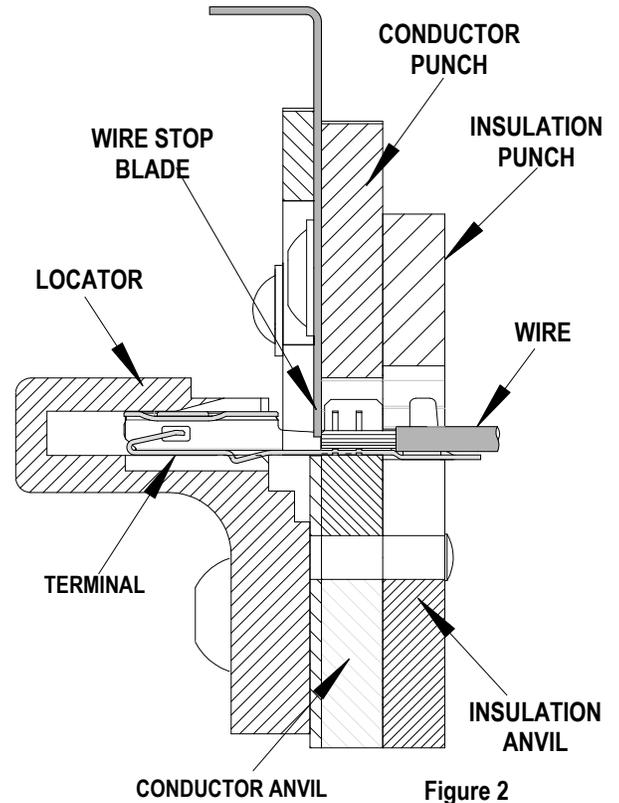
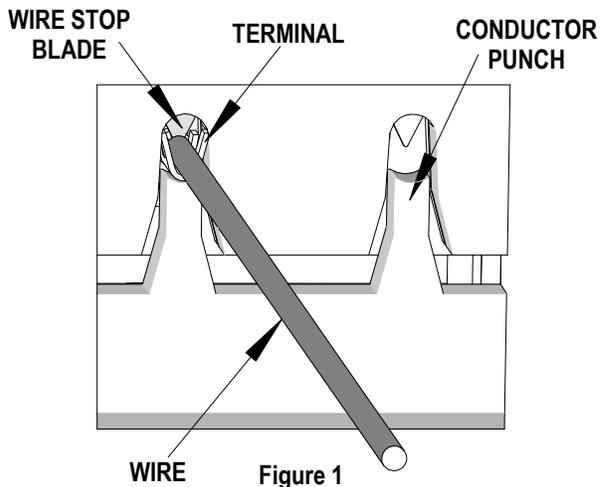

Figure 2
Figure 1
3. Slide the pre-stripped wire into the terminal; make sure to aim the wire brush towards the tip point on the wire stop blade. See Figure 1. Align the wire so that it is parallel and sitting into the terminal. Maintain a light and constant pressure on the wire that is seated in the terminal at all times. (Do not let go of the wire.) Be sure to hold the wire and terminal in place until the terminal is fully crimped. See Figure 2.